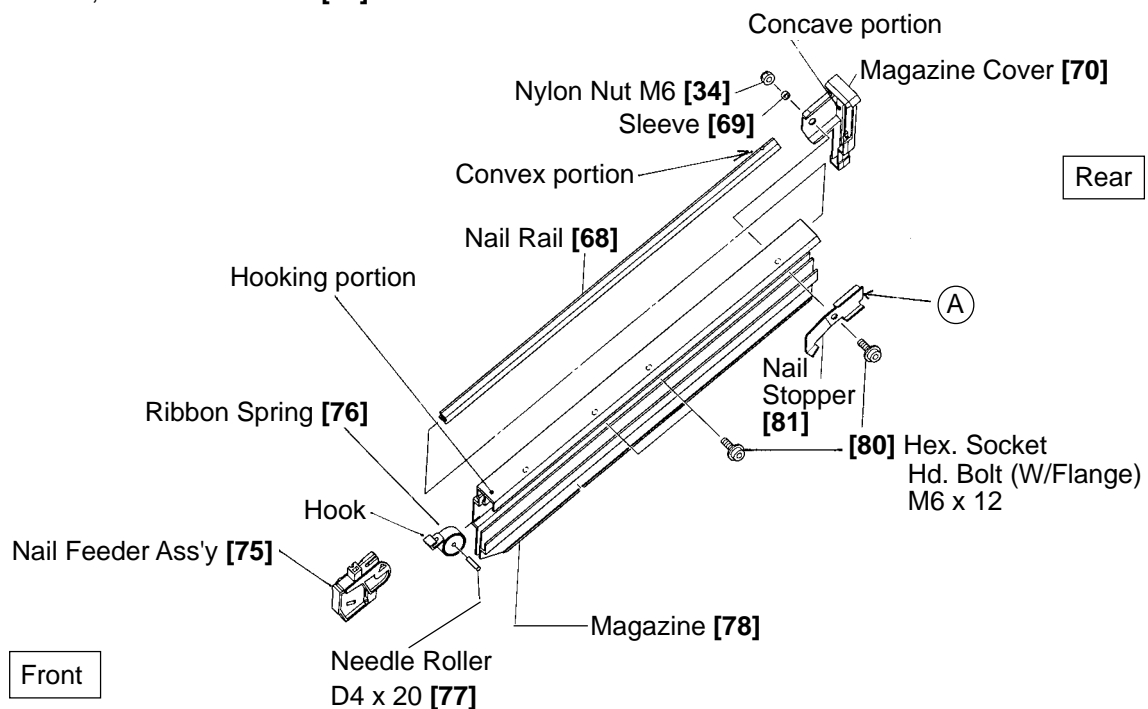

Fig. 20
(2) Magazine [78], Nail Feeder Ass'y [75] and the related parts (See Fig. 20.)